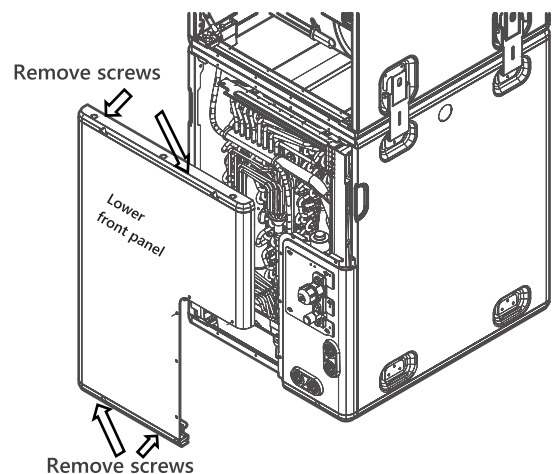

Fig. 1-4: Remove Lower Front Panel Screws
3. Remove the four screws and open the lower front panel. See Fig. 1-4.